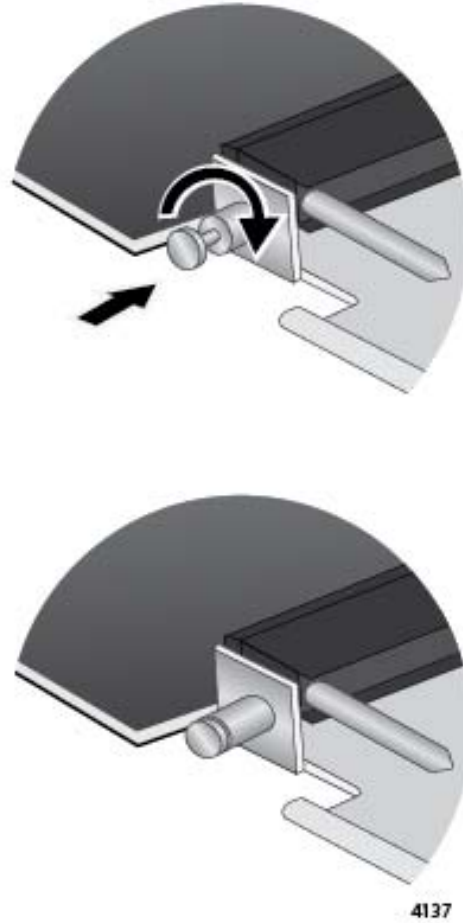

Figure 176. Releasing the Retaining Pin
11. Turn the retaining pin on the side of the card a quarter turn to release it. Refer to Figure 176 on page 276.